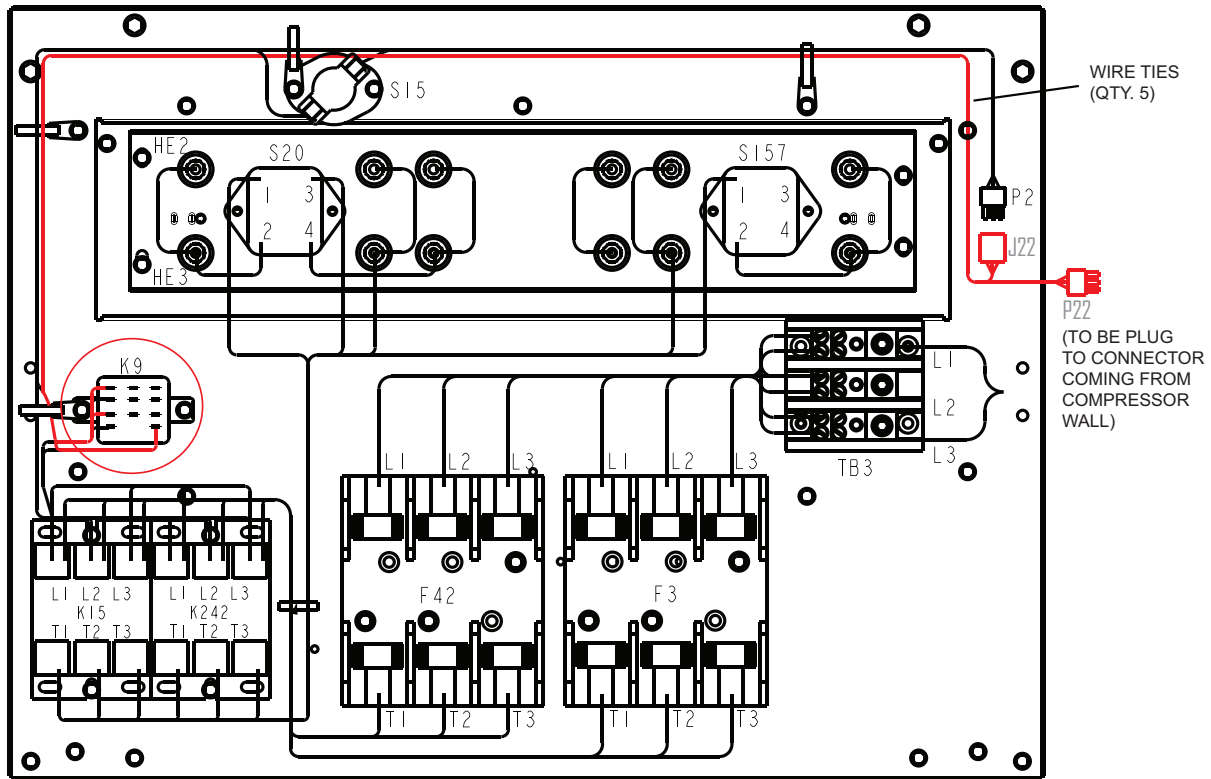

FIGURE 3
- 6 - Attach K9 relay using 2 screws provided on the location shown in FIGURE 3.
- 7 - Install harness provided, connect J22 jack to P2 plug coming from electric heater. Leave P22 plug open to connect to J2 jack coming from the compressor divider panel. Add wire ties provided to secure added harness to electric heater wiring. See FIGURE 3 for plugs and wire ties locations.
Wiring must conform to local codes and the current NEC/CEC. Refer closely to FIGURE 3, the field wiring diagram in this kit, and the following information: If heater is being installed in an existing unit, a change in power supply wiring may be required. Remove the original supply wires or disconnect at power source. Refer to heater nameplate for minimum circuit ampacity and maximum fuse size.